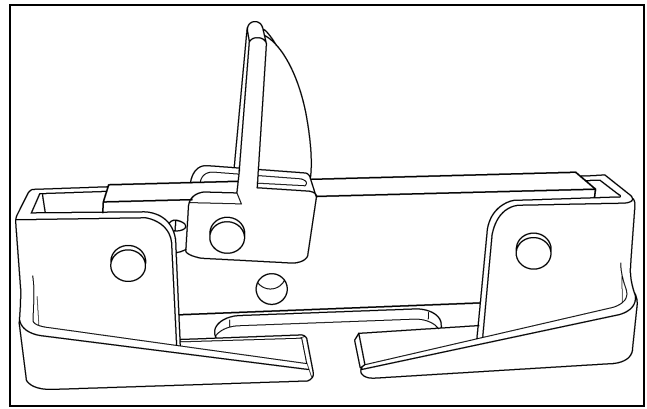
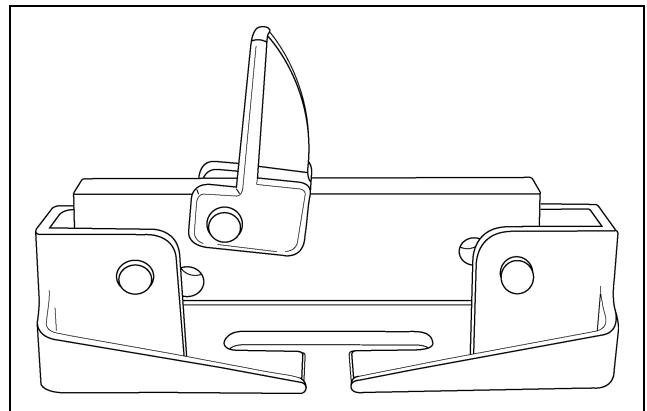

Figure 4L Load Cell Spacer Position for 5000 lbs.
Figure 4M Load Cell Spacer Position for 10000 lbs.
3. The same spacer is used for both the 5000 lbs. and 10000 lbs. bins, the positioning of the spacer will determine if it is a 5000 lbs. or 10000 lbs. spacer. The 5000 lbs. position will place the spacer approximately 1/8" below the top of the cell base. (See Figure 4L.) The 10000 lbs. position will place the spacer approximately 1/8" above the top of the cell base. (See Figure 4M.)